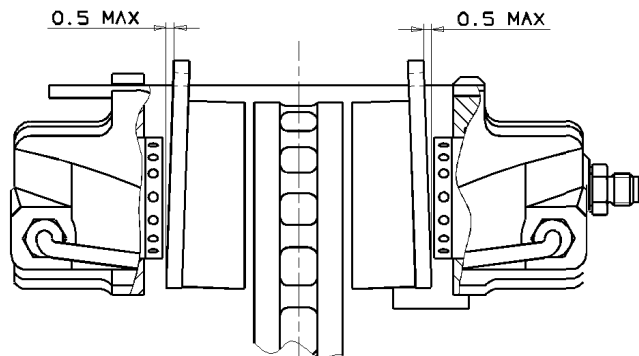

Fig. 10
- b. Pad radial taper wear difference must not exceed 1 mm MAX, bearing in mind that the direction of wears of the same caliper must be according to what shown on the Fig.10. Defective or excessively worn pads must be changed.